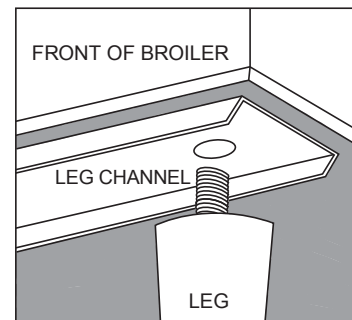

Figure 1 - Leg Placement
- Remove the leg channels and knobs that are packed in the broiler (located in the hopper front). The leg channels are two long pieces of U-shaped steel designed to prevent warping of the broiler frame when the broiler is moved by sliding on its legs. See Figure 1